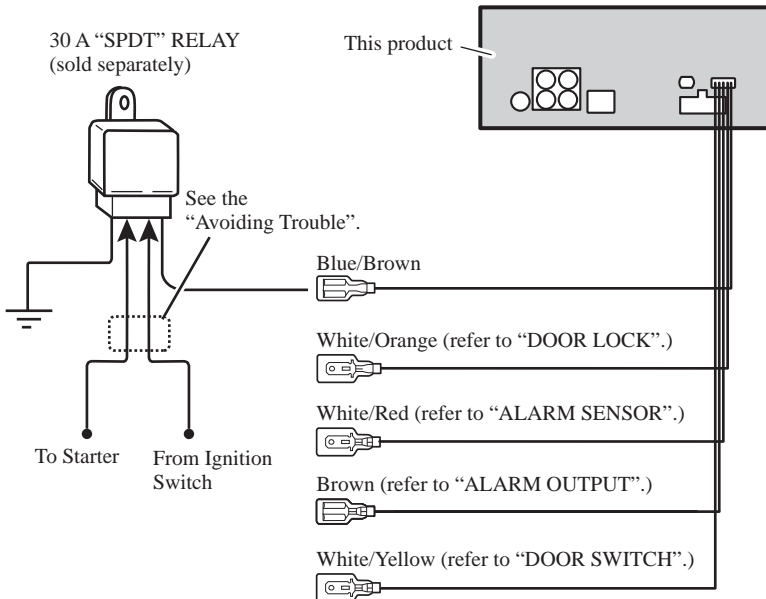

Fig. 9
- **Blue/Brown (STARTER CUT-OFF)** (Fig. 9)